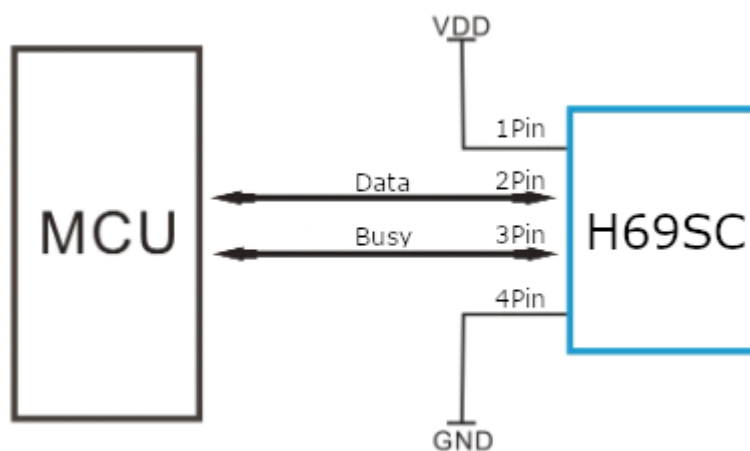

Figure 1 Typical Application
3. Typical application (Figure 1)